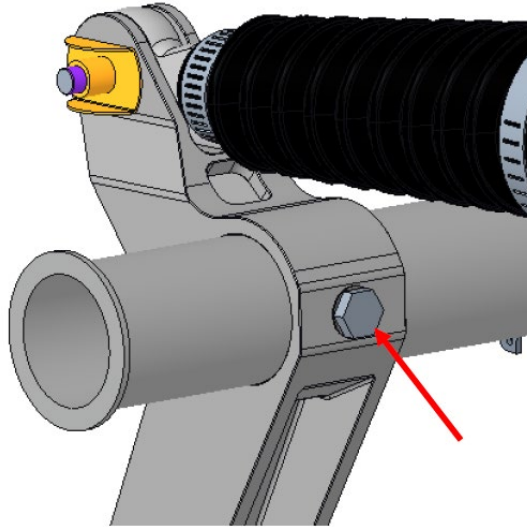

*Figure 6. Limit switch bracket sub assembly*
7. Install 2 each bolt (NAS428H3-7), 2 each washer (NAS1149C0332R) and 2 each nut (AN315C3R) as shown in **Figure 6** onto 1 each the new retrofit NLG Limit Switch Bracket assembly. Set pre-gap (.22 in) as specified below. Pre-install jam nut (AN315C3R) finger tight but do not torque.
- e. Adjust rigging by loosening jam nut and adjusting crowned bolt for TOP bolt (NAS428H3-7) (**Figure 6**). Re-torque jam nut to 15±2 in-lbs.